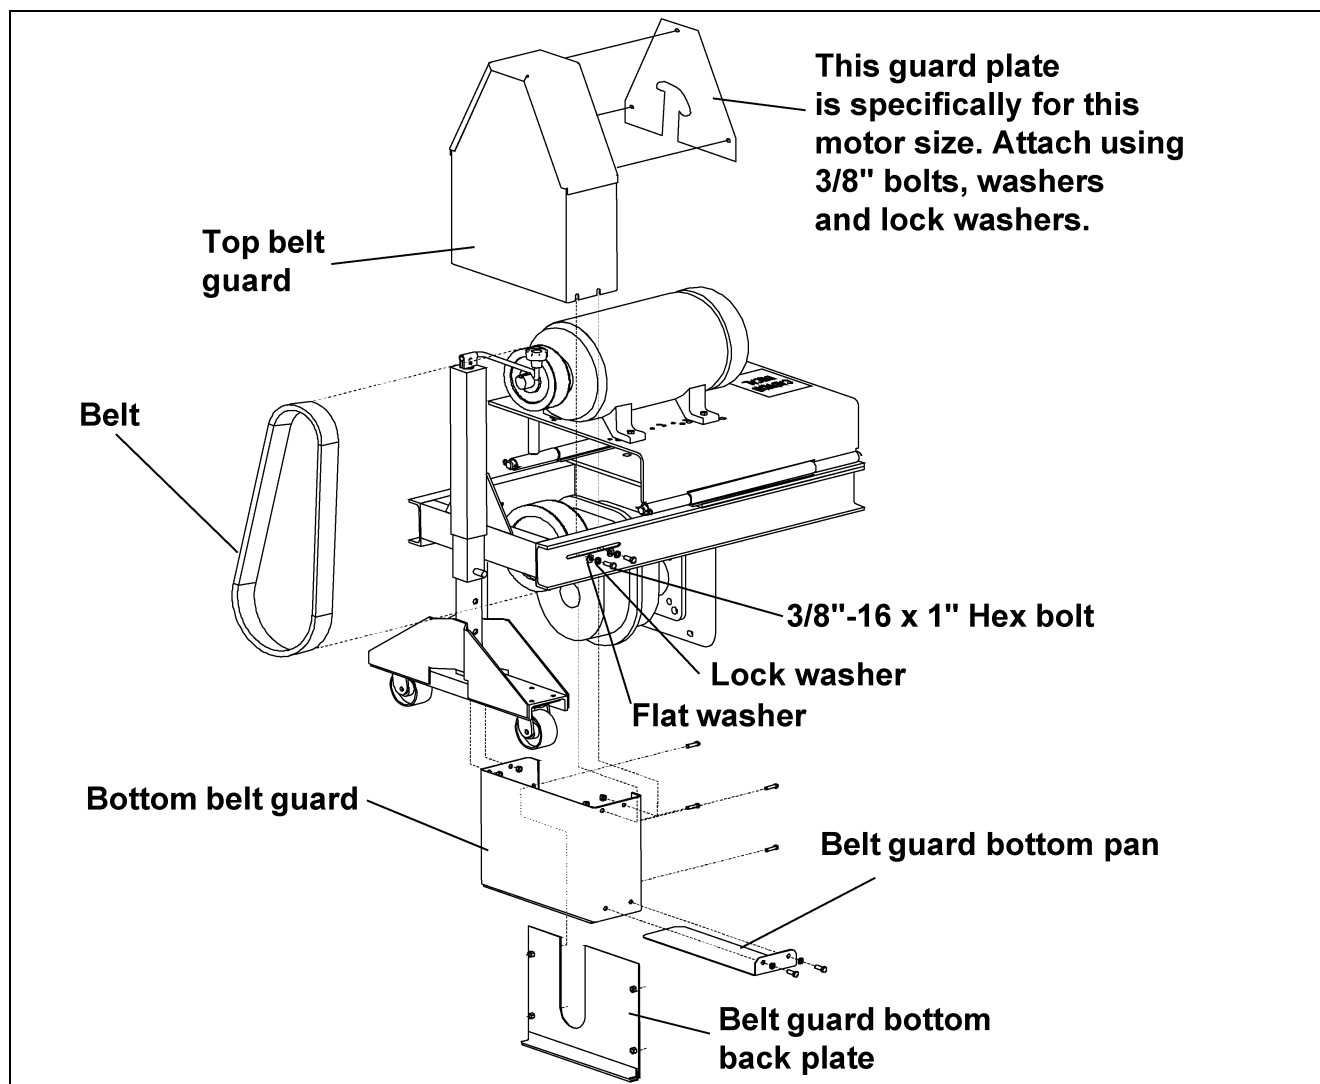

Figure 5Y
F. Carefully install the belts onto the large and small sheaves. (See Figure 5Y on Page 41.)
G. Loosely bolt the bottom belt guard to the motor mount using four (4) 3/8"-16 x 1" hex bolts, flat washers and lock washers. (See Figure 5Y.)
H. Slide the top belt guard over the bottom belt guard as shown in Figure 5Y and tighten bolts.